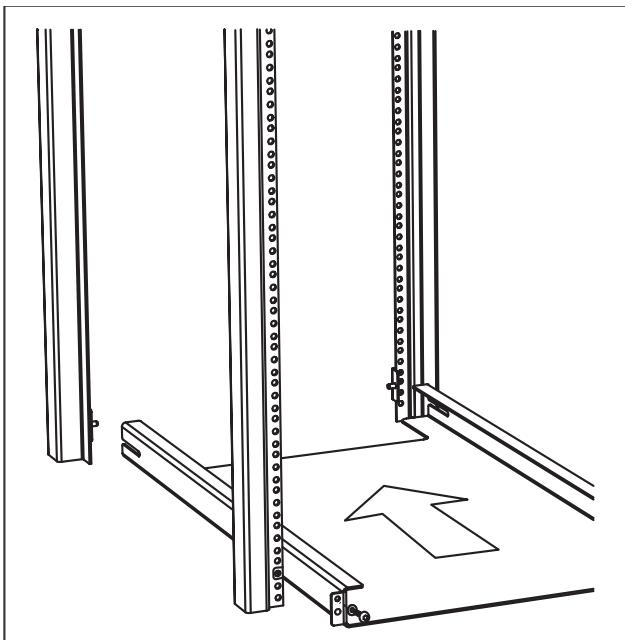

Figure 20 Inserting the rail tray in the rack
6. Position the rail tray (Figure 20) and insert the tray into the rack from the front.